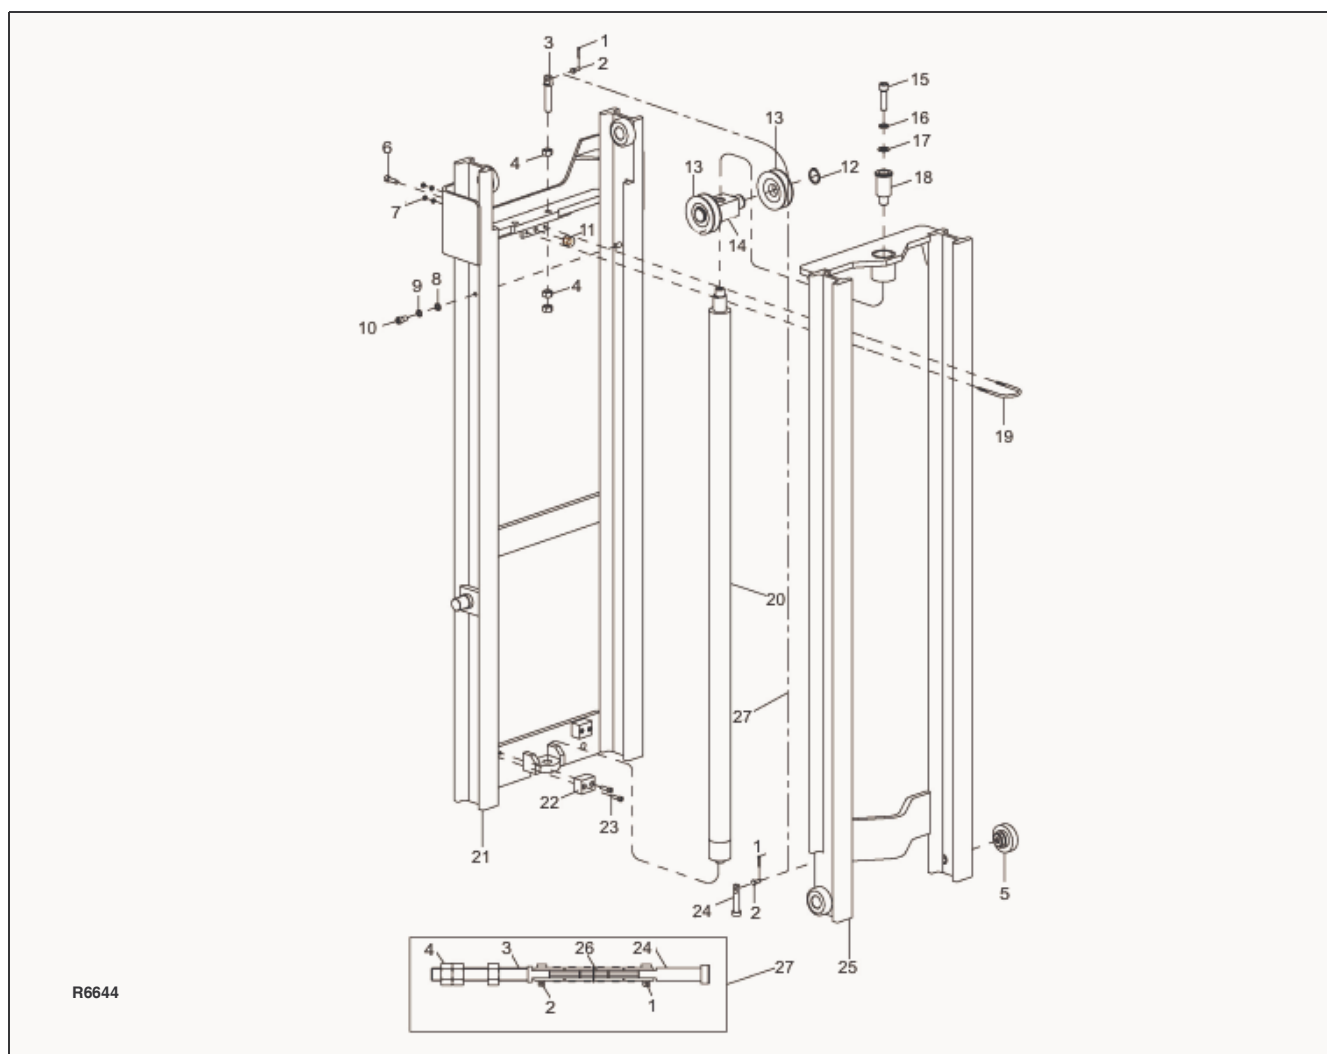

Figure 9-4 Mast (Telescopic)
4. Remove screw (15, Figure 9-4), lock washer (16) and flat washer (17).
1. Position the cylinder on outer mast (21, Figure 9-4).
2. With the cylinder tilted slightly forward, position ram head (14) on top of cylinder (20). Then tilt the cylinder back into position.
3. Lift up the lift chains and position them on sheaves (13).
5. Slowly lower the inner mast while lining up the lift cylinder with positioner (18).
6. Secure the top of the cylinder with screw (15), lock washer (16) and flat washer (17).